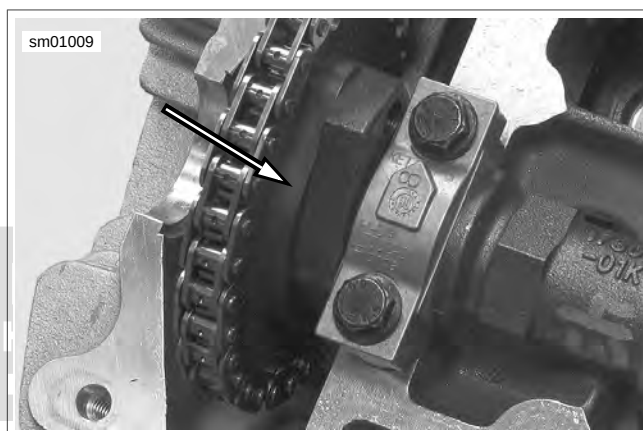

Figure 3-43. Spacer Boss on Inside (rear cylinder cam sprocket)
- See Figure 3-43. The rear cylinder cams are identified by the spacer boss location on the inside of the cam sprockets.